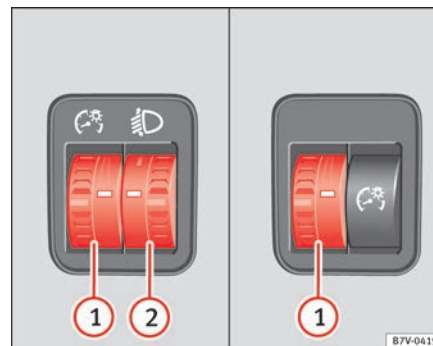

Fig. 63 Next to the steering wheel: instrument and switch lighting control ① and headlight range control ②. ▶
① Instrument and switch lighting
When the headlights are switched on, the brightness of the instruments and switch lighting can be regulated to suit your requirements by turning the switch ⇒ fig. 63 ①.
② Headlight range control